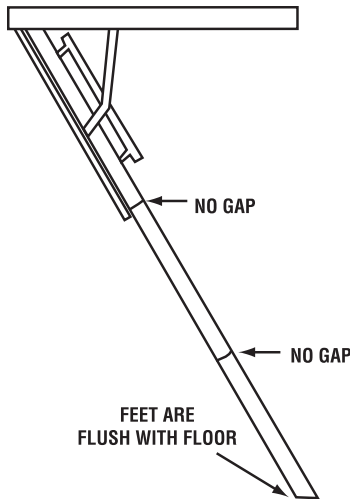

FIGURE 5A - CORRECT SETUP
**WARNING:** The bottom section must fit flush with the floor. Failure to cut properly could result in undue stress on the component parts of the stairway, resulting in serious injury (see FIGURES 5A, 5B and 5C).